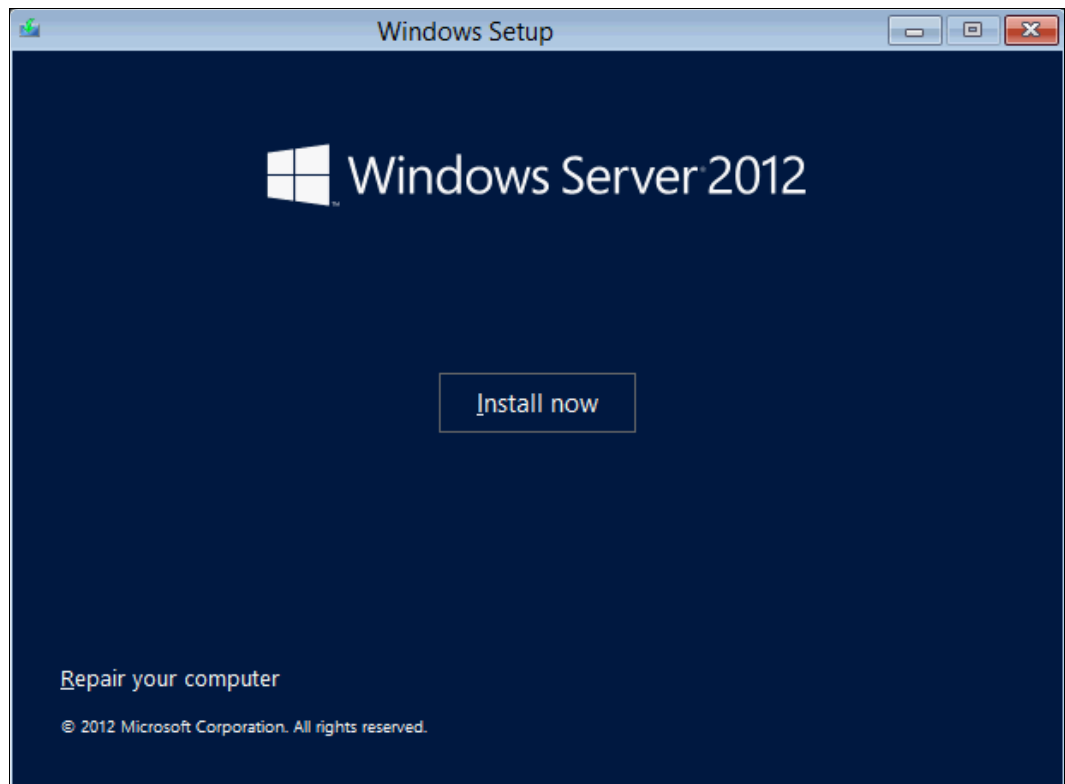

Figure 9-60 Install now button in the Install Windows panel
3. In the Install Windows panel (Figure 9-60), select **Install now**.